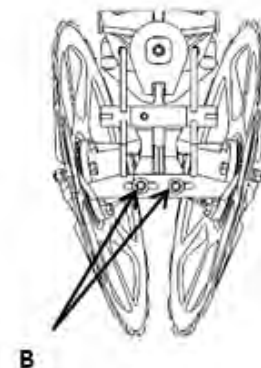

Figure 7-15: Bottom Scrapers
1. Loosen bolts (B), shown in Figure 7-15.
3. Tighten bolts (B).